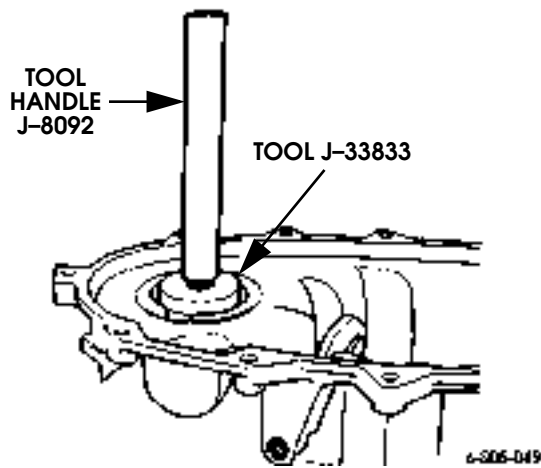

Figure 5-118: Front Output Shaft Front Bearing Installation
3. Install new bearing with tool handle J-8092 and installer tool J-33833 (Figure 5-118).